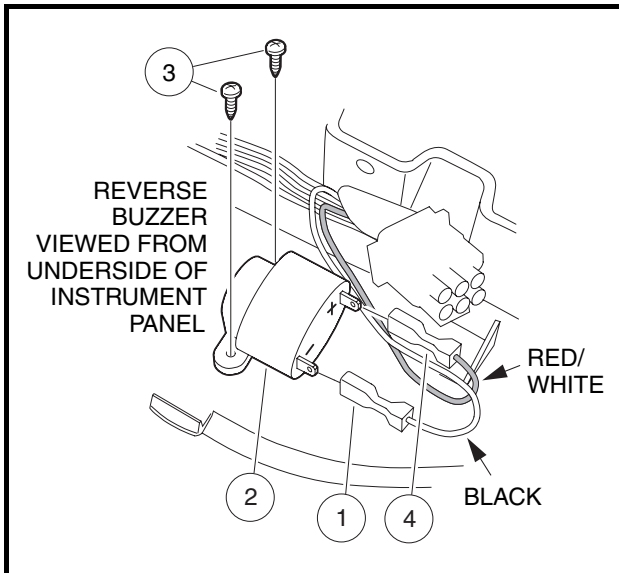

Figure 12-20 Reverse Buzzer
3. Disconnect the wires from the reverse warning buzzer (2) (**Figure 12-20, Page 12-19**).
4. Remove the two mounting screws (3) securing the buzzer to the instrument panel.
1. Install the screws (3) through the buzzer bracket tabs and tighten to 3.5 in-lb (0.40 N·m) (**Figure 12-20, Page 12-19**).
2. Connect the black wire (1) from the wire harness to the negative (–) terminal on the buzzer.
3. Connect the red/white wire (4) from the wire harness to the positive (+) terminal on the buzzer.